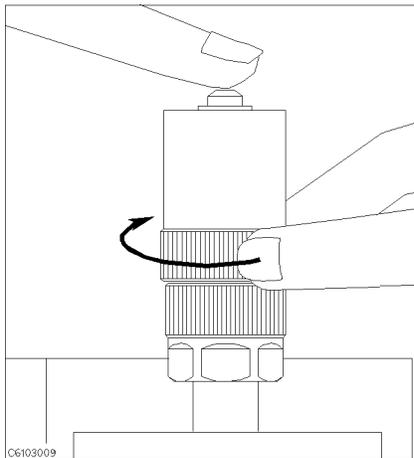

Figure 3-7.
6. Connect the 0 S termination to the APC-7[®] connector as shown in Figure 3-7.